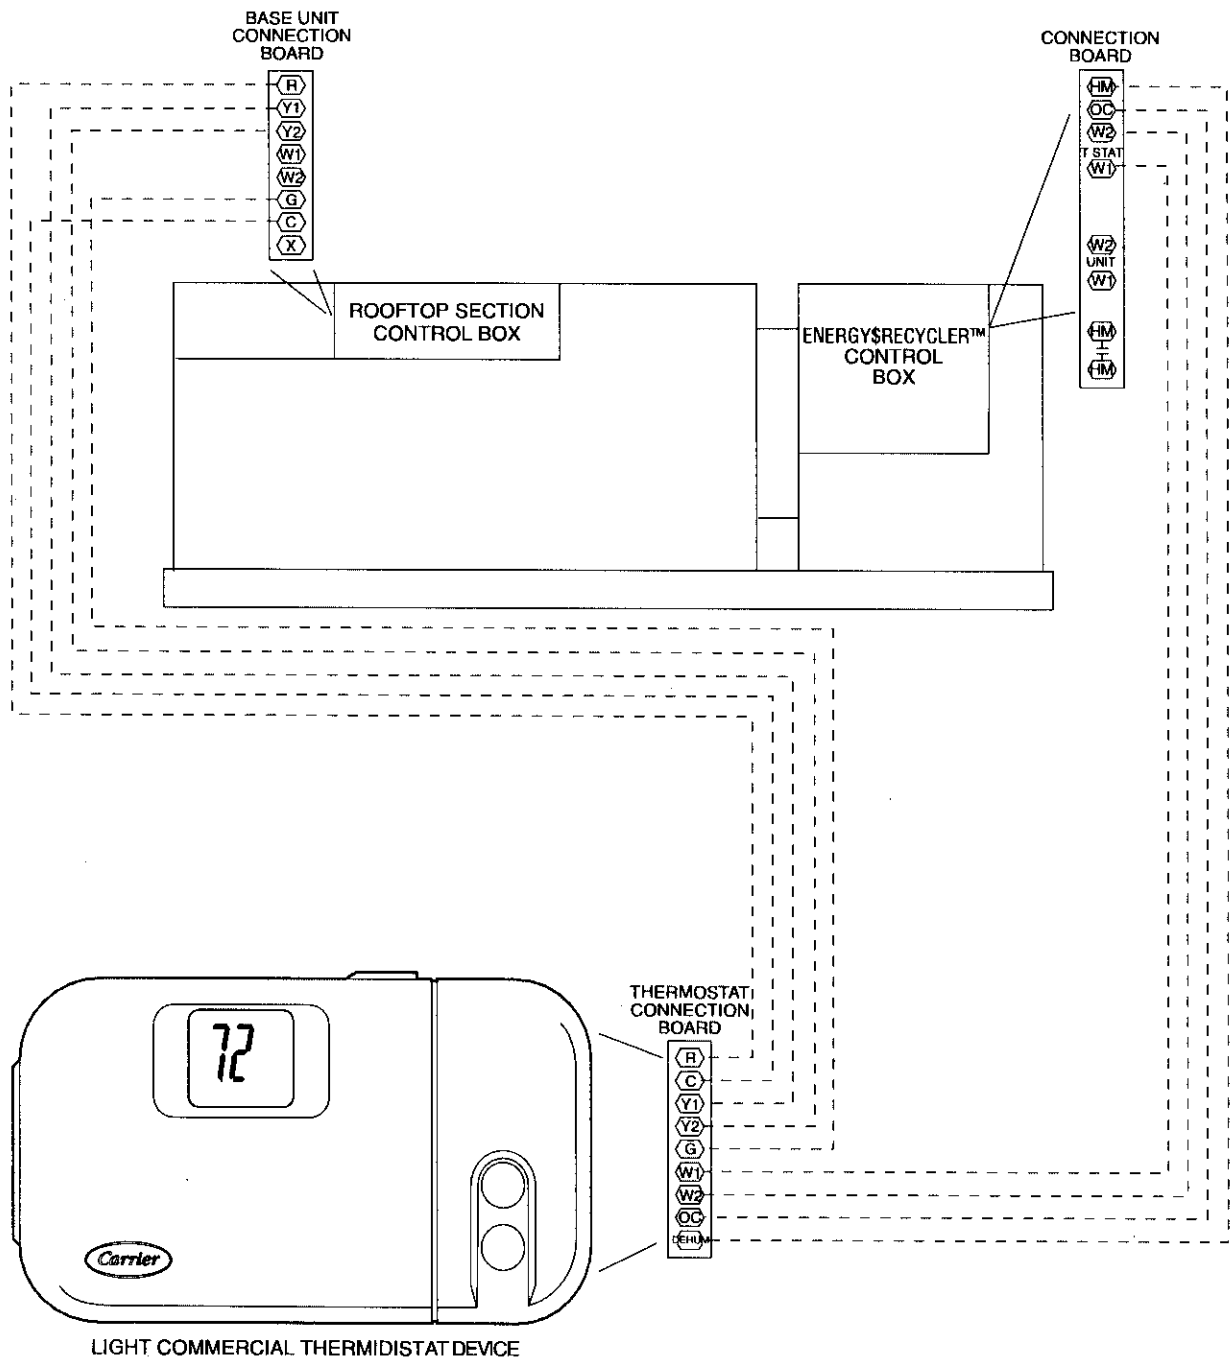

Fig. 16 — Control Wiring with Thermidistat™ Device and Electro-Mechanical Controls
- Thermidistat™ and electro-mechanical controls (Fig. 16)
If a Thermidistat device is used, install the Thermidistat assembly accessory according to installation instructions included with the accessory. Place the Thermidistat assembly on a solid wall in the conditioned space to sense average temperature in accordance with Thermidistat installation instruction on page 43. Connect Thermidistat wires to terminal board. Route Thermidistat cable or equivalent single leads of colored wire from subbase terminals through connector on unit to low-voltage connections (shown in Fig. 16). Thermidistat control wiring is routed to both the rooftop unit control box and the 62AQ Energy\$Recycler control box.